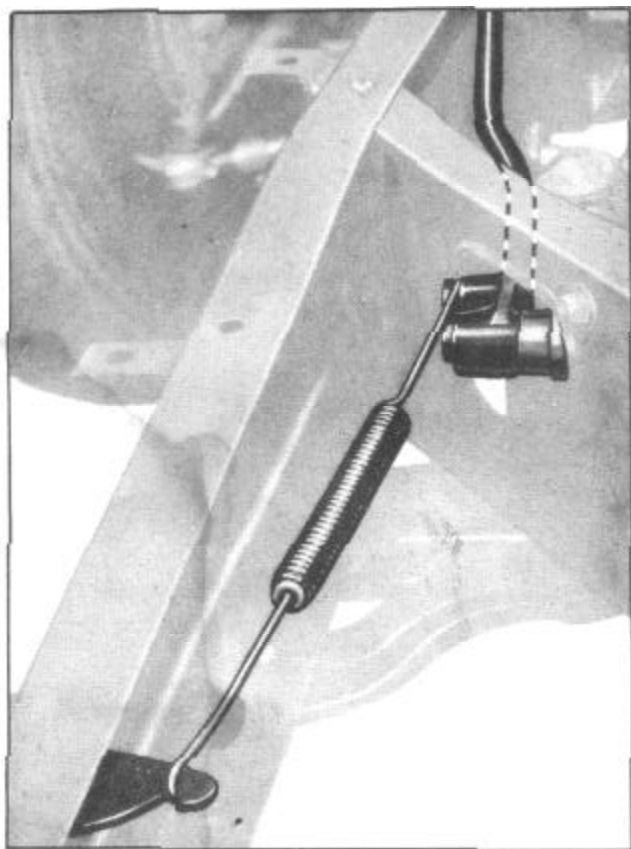
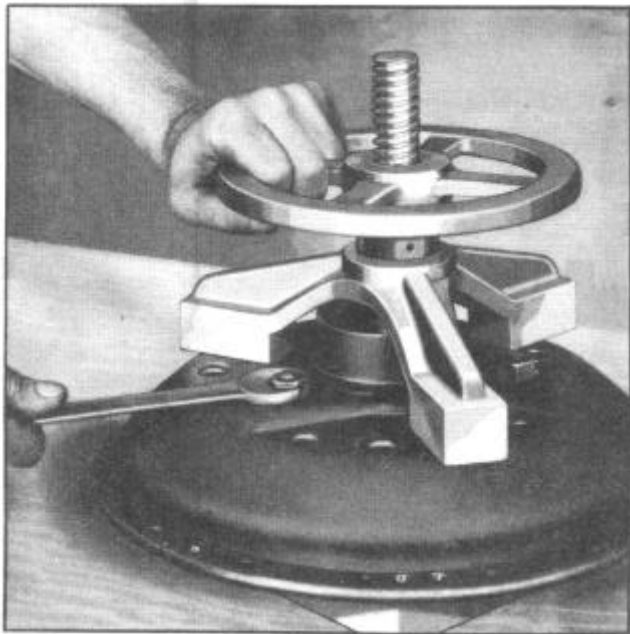

Figure 1--Clutch Pedal Assisting Spring
Figure 7--Disassembling Clutch
This is to assist in disengaging the clutch with a minimum of foot pressure, see Figure 1.
Place the clutch assembly in the clutch fixture J 298 H, Figure 7, and clamp it tightly with the hand wheel. Remove the three nuts (6), Figure 1, from the back of